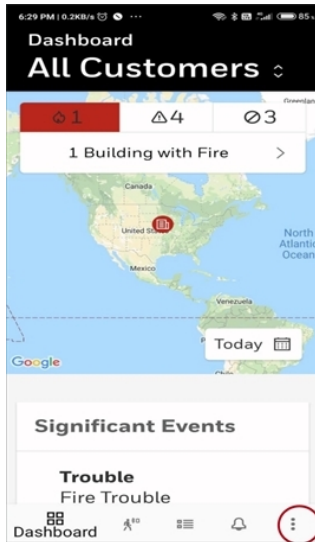

Figure 5-1: CLSS App Dashboard
- On the App's dashboard, at the right bottom, tap the **More** icon (see Figure 5-1: CLSS App Dashboard ).